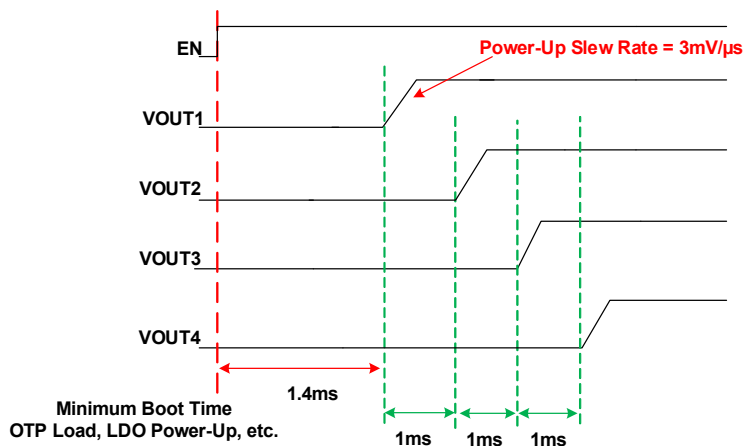

Figure 38. Master Chip Enable Power-Up Example
Figure 38 provides an example of power-up configurability. The master chip enable pin (EN) transitions from 0 to 1, and OTP is loaded over 1.4ms. After the initial 1.4ms boot interval, the buck output start-up sequence begins. In the Figure 38 example, BUCK1\_EN\_DLY is set for 0ms, BUCK2\_EN\_DLY is set for 1ms, BUCK3\_EN\_DLY is set for 2ms, and BUCK4\_EN\_DLY is set for 3ms.